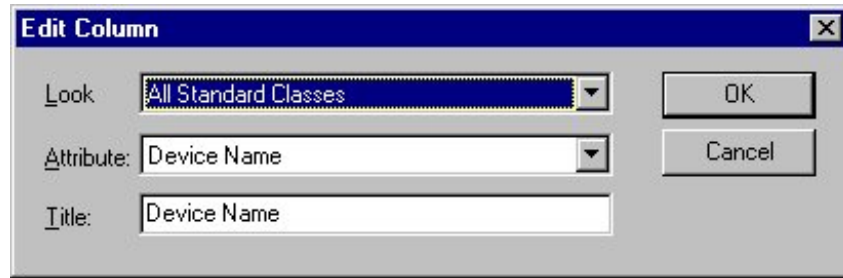

Figure 10-4: Edit Column Dialog Box
3. Select Edit Columns on the Format menu. The Edit Column dialog box appears (Figure 10-4).